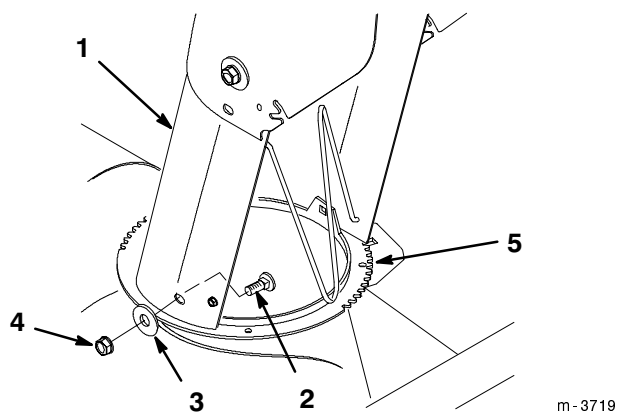

Figure 4
1. Install the discharge chute assembly onto the chute ring with (3) 5/16 x 3/4" (19 mm) carriage bolts (heads to the inside), (3) 5/16" (8 mm) washers and (3) 5/16" locknuts (Fig. 4).